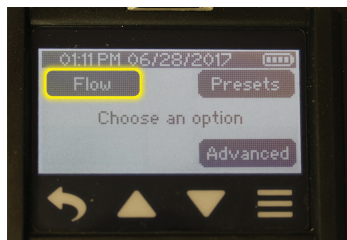

Figure 3. Single-tube Flow Rate Verification Train
1. Break tips off a representative sorbent tube and insert (arrow printed on tube pointing toward the pump) into the rubber sleeve of a 222 Series (non-adjustable) Low Flow Tube Holder (*Figure 3*).
2. Connect tubing from the 222 Series (non-adjustable) low flow tube holder to the pump inlet (*Figure 3*).
3. Use a length of flexible tubing to connect the exposed open end of the representative sorbent tube in the holder to a flowmeter outlet (*Figure 3*).
Build a flow rate verification train with sample media in line (*Figure 3*).